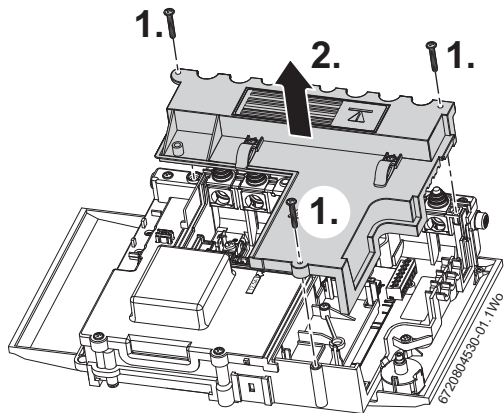

Fig. 1 Removing the connection cover
1. Referring to figure 1, unscrew the three screws in the control panel.